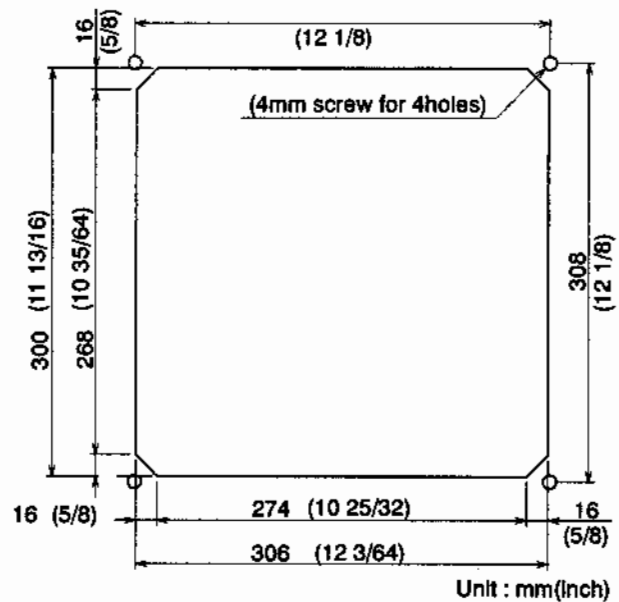

Figure 3.8 The opening and nut-holes for display unit
- (1) Cut an opening and drill 4.5 mm (in the case of fixed nut) four nut-holes with the size shown in Figure 3.8, on the side for attachment of a display unit on a panel.
- (2) Unscrew two knob bolts that hold the display unit to the mounting bracket.
- (3) Remove the display unit from the mounting platform and put it on a level place.
- (4) Detach four corner guard caps.